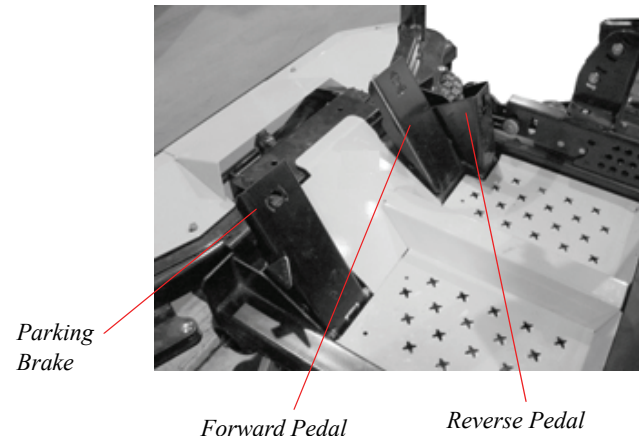

Figure. 6
3. **Speed Control Pedals:** (See Figure 6.) The pedals control all of the speed and direction movements of the mower. Pushing the forward pedal causes the
5. **Parking Brake:** (See Figure 6.) Located on the left side of the traction unit. The Park brake pedal applies the drum-type brake on each of the drive wheels when the pedal is pushed. The park brake must be engaged in order to start the engine. **To engage**, push the latch on the side of the pedal and the pedal downward until it latches. **To release**, push the pedal downward (not the latch) and release.